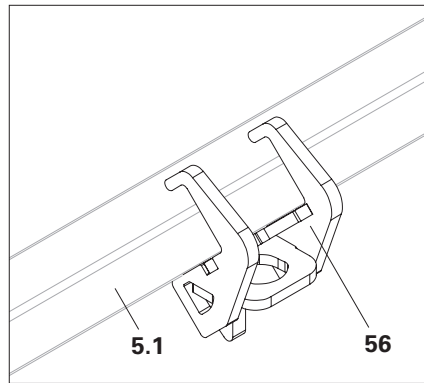
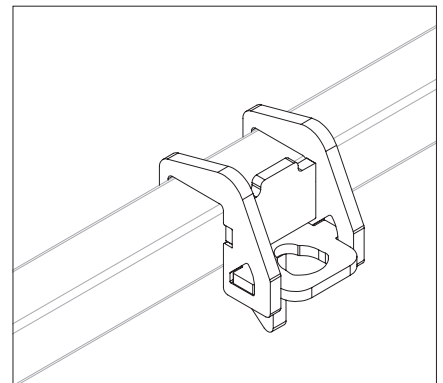

Fig. A13.02
Fig. A13.02a
- The ledger-to-ledger coupler (**56.1**) tilts into the horizontal position and locks in place. (Fig. A13.02 + Fig. A13.02a)